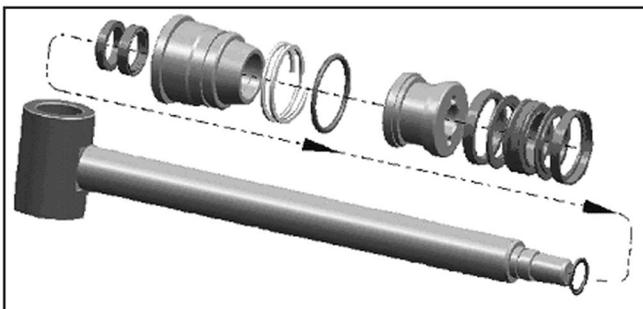
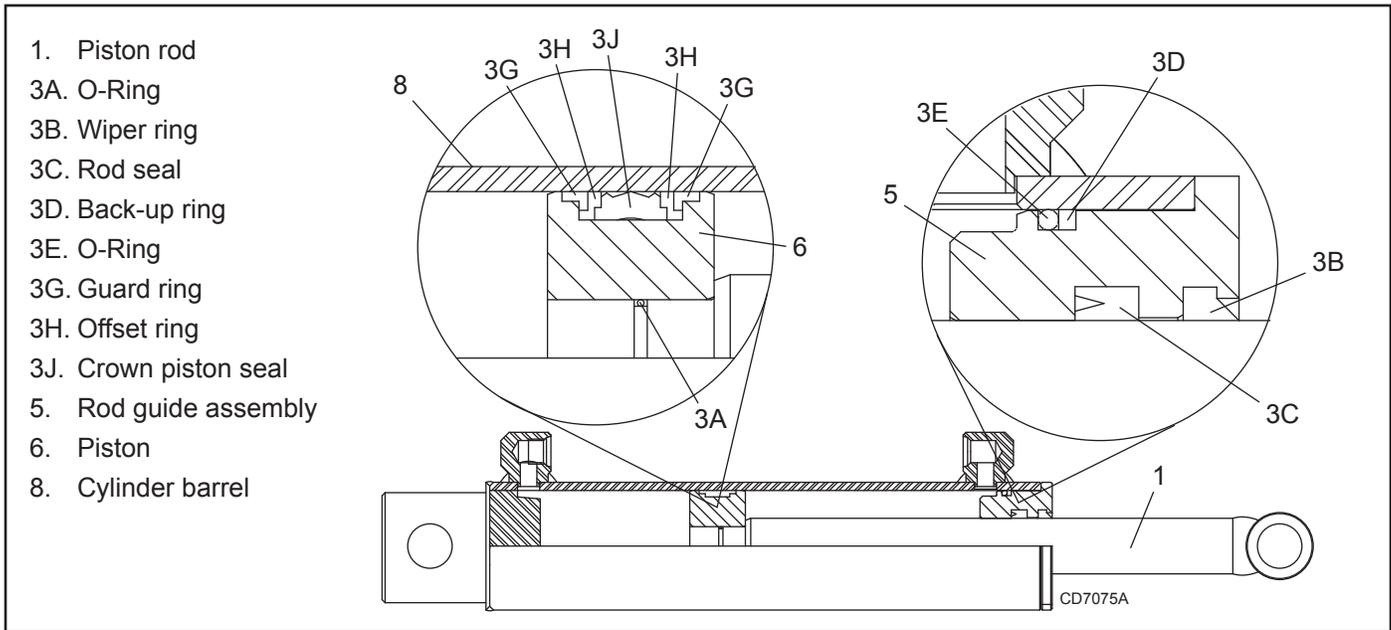

Figure 17. Seal Kit
Figure 18. 1021509 Hydraulic Cylinder
Lubricate O-rings and seals with clean hydraulic fluid. Install back-up washer (3D) on rod guide (5), and then install O-ring (3E) in exterior O-ring groove of rod guide. See Figure 17 or Figure 18. Make sure that the back-up ring is located closest to the rod guide face. Place rod wiper (3B) in outer rod guide groove. Install rod seal (3C) into the second groove from the rod guide face with the open portion of V-groove toward piston.